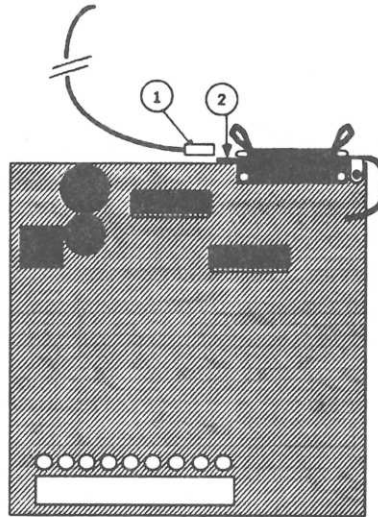

FIGURE 12
15. Slide the chassis grounding strap (Figure 12, #1) off the ground lug.
IMPORTANT: *Leave the ground lug (Figure 12, #2) attached to the board. If you send the board to Apple for exchange, all ground lugs must be present on the board.*